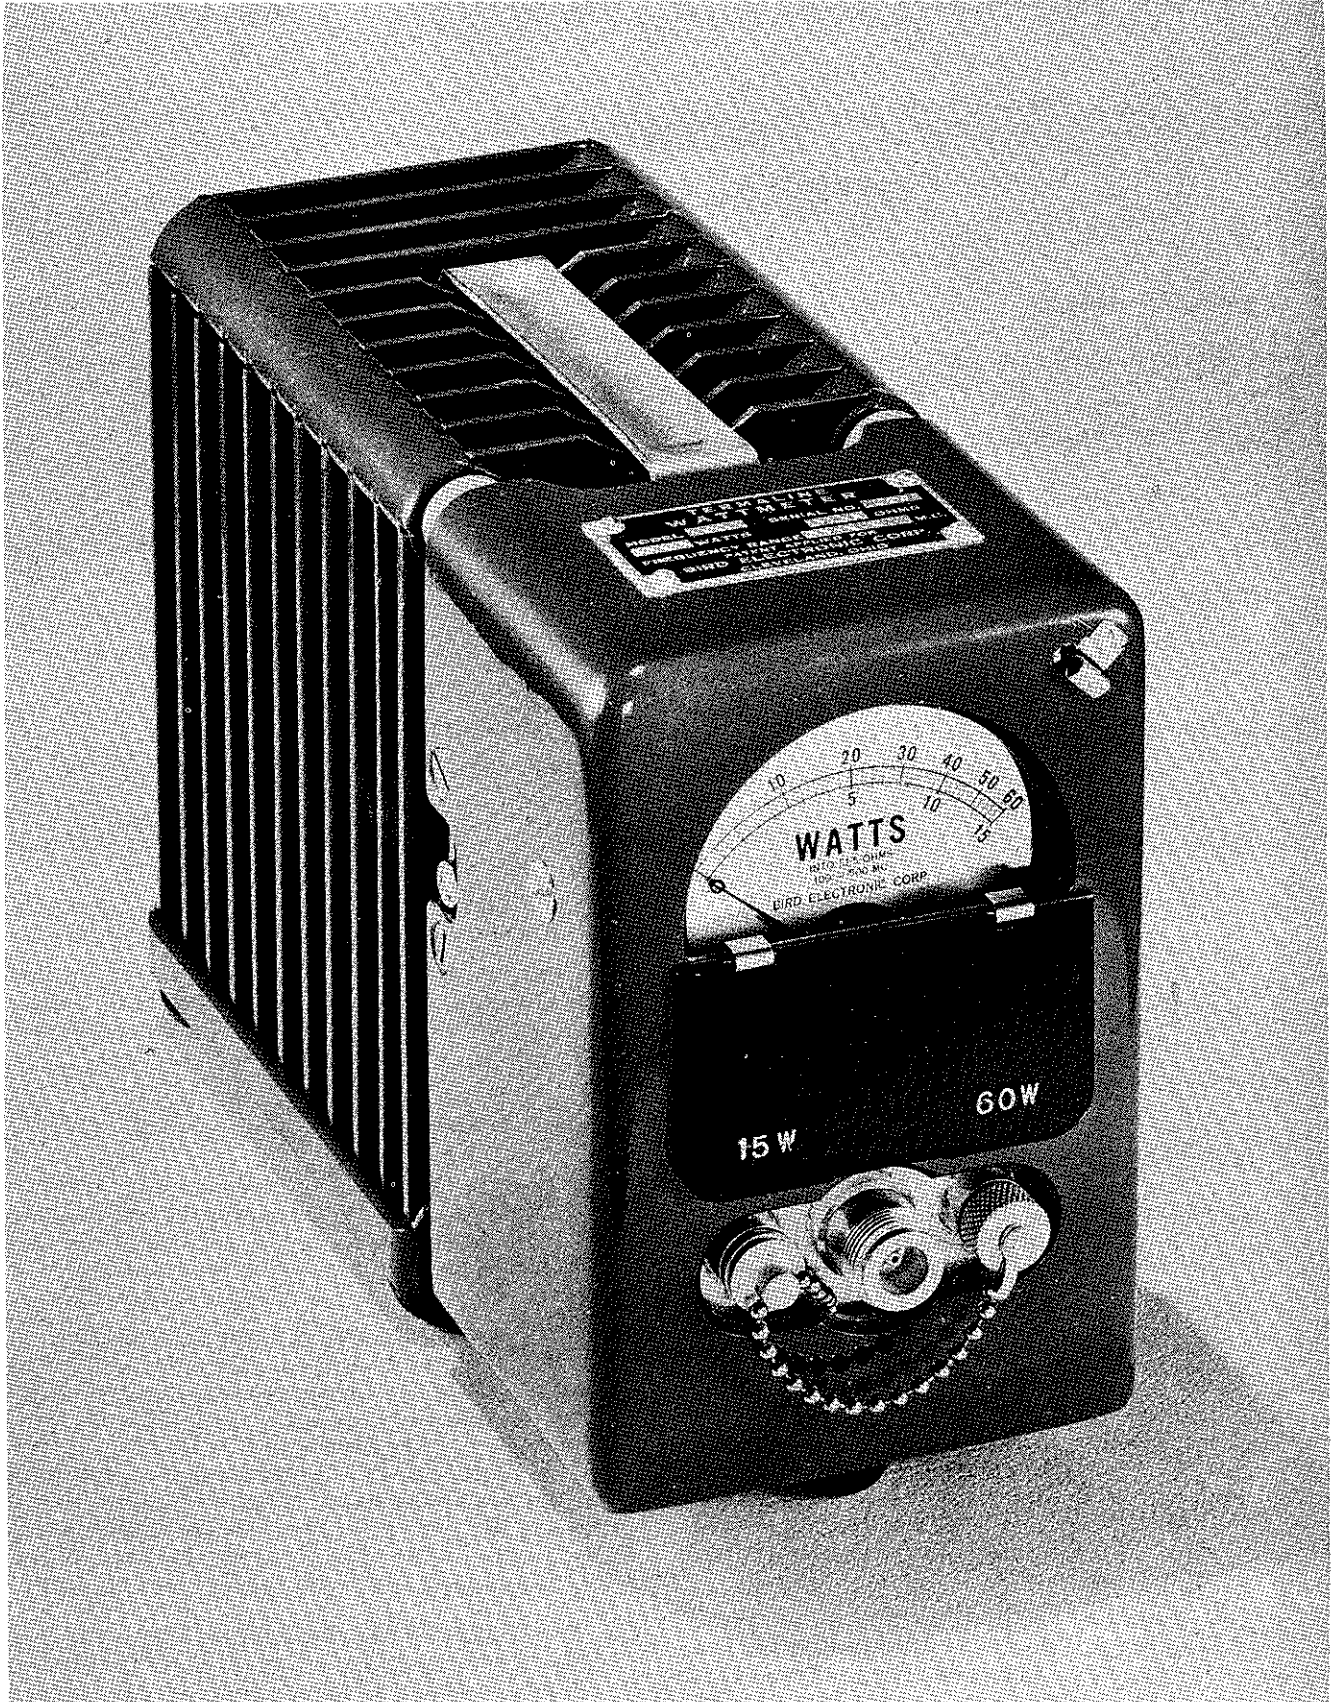

Fig. 1-1. Front View RF Wattmeter Model 61
3. DESCRIPTION (See Fig. 1-1)
c. The sealed meter is protectively surrounded by the meter box and is shock mounted within the box. A protective flap (Fig. 1-1) covers the meter face opening for extra precaution when being carried around. The meter is equipped with a 39-inch shielded dc cable.